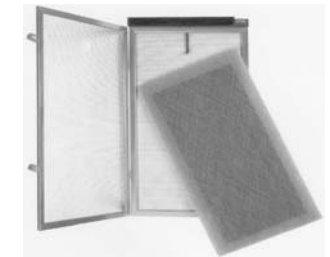

Figure 5
- 8) Position the new replacement media pad so that it is centered within the air cleaner frame (fig 5).